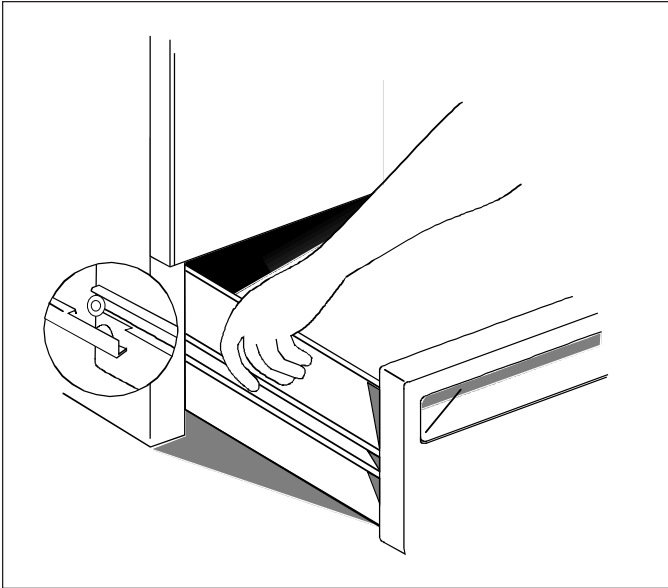

Figure 42
2. See Figure 42. Grasp drawer sides near back of drawer.